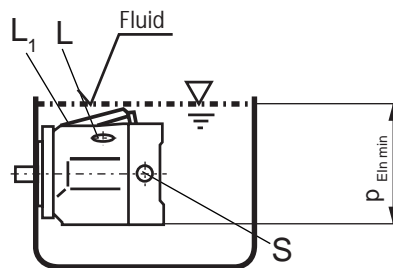

Fig. 3
a) If the minimum fluid level is equal to or above the top of the pump, ports "L", "L₁" and "S" should remain open (see Fig. 3)